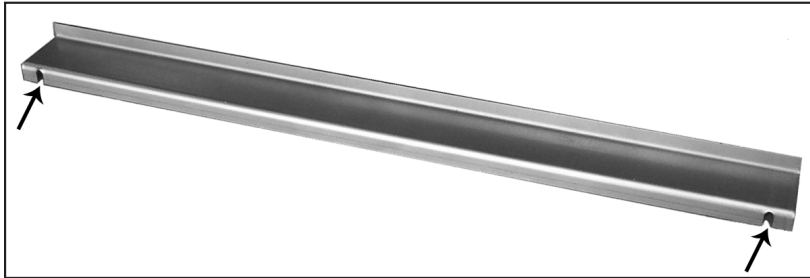

Figure 67: Brick panel bracket, slots shown.
1. Remove the two (2) screws from the rear of the baffle, use a $\frac{1}{4}$ " socket or a flat head screwdriver. Place the provided brick bracket (Figure 67) at the rear of the baffle with the slots over the screw holes (see Figure 68). Insert two (2) of the provided screws into the two (2) holes along the bottom of the baffle.